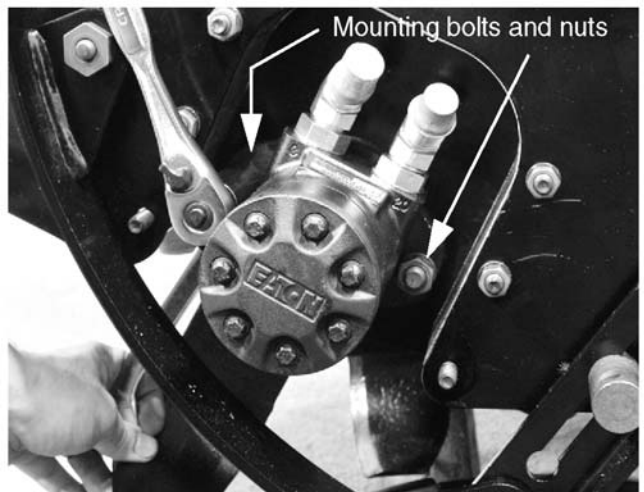

Figure 8-102.
7. Remove the two large nuts that hold the hydraulic motor to the tiller assembly using two 3/4" wrenches. See Figure 8-102.